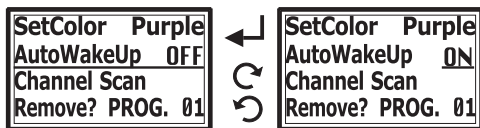

Fig. 21
(M) AutoWakeUp function, Fig. 21: Enable or disable Auto Wake Up function.